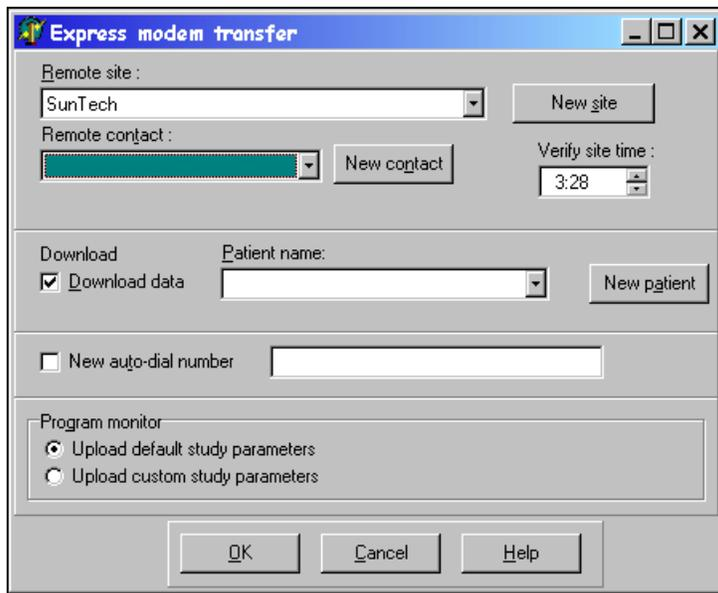

Fig.13. Modem transfer dialog box
3. Once the program is launched, click **Modem** on the toolbar. The Express Modem Transfer dialog box appears (Fig. 13).
You can also select whether you want the option to disable study upload during a modem transfer with a remote site. You might want to do this if a remote site will download collected study data to the central terminal and keep that data on the monitor. If the **Allow disabling of study protocol at modem transfer** checkbox is selected, the option of **Do not upload new study parameters** is available in the Modem transfer dialog box (See Fig. 13).
The **Allow custom BP study parameters at modem transfer** option allows central terminal users to program custom study parameters that differ from the global default BP study parameters and the remote site default BP study parameters. If selected, **Upload custom study parameters** is a choice in the Modem transfer dialog box (See Fig. 13).